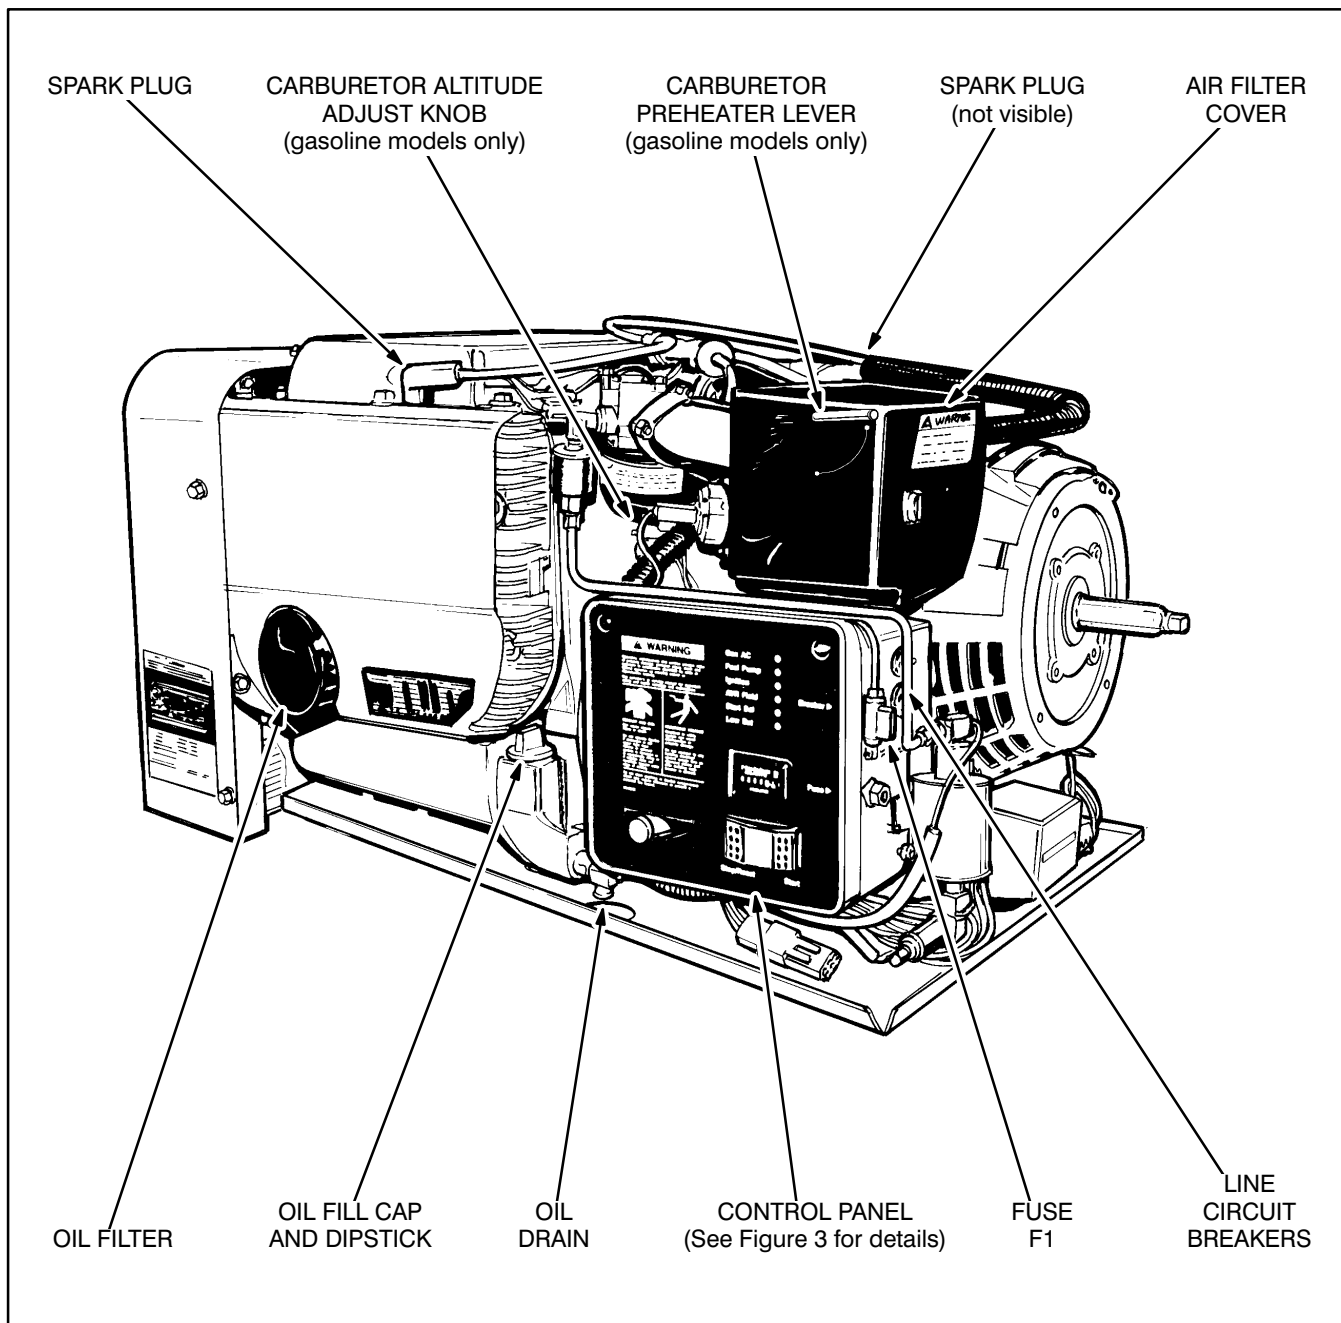

FIGURE 4. COMPONENT LOCATIONS
*Maintenance*) are located as shown in Figure 4. The genset itself is usually located behind a door in a compartment somewhere around the perimeter of the vehicle.